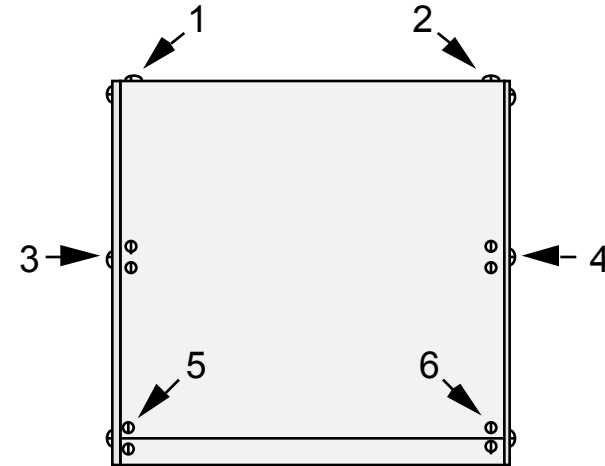

Figure 8
- Remove the six K2 top cover screws shown in Figure 8.